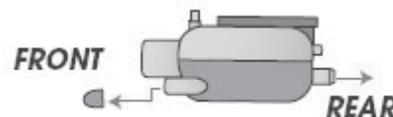

Fig. 3 – Detection Unit
4. Attach one end of the transparent tubing to the detection unit. The tube can be connected to either the front or the rear as shown in Fig. 3 block the unused outlet with the plug supplied.